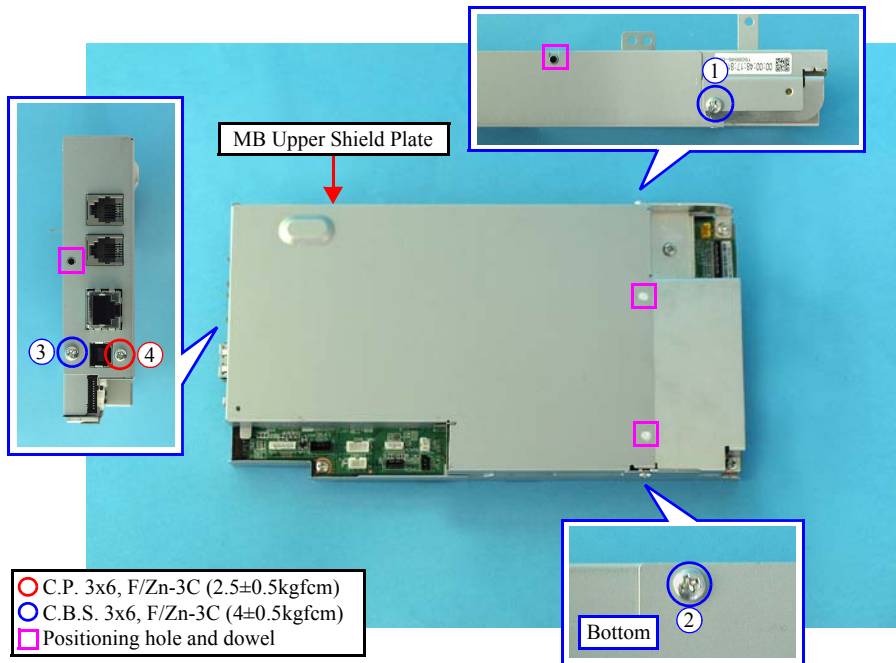

Figure 4-21. Removing the MB Upper Shield Plate
- When reassembling the Main Board Unit, make sure to match the positioning holes (x4) to the dowel (x4) as shown in Figure 4-21.
- When installing the MB Upper Shield Plate, tighten the screws in the order given in Figure 4-21.